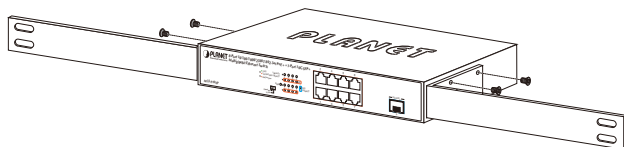

Figure 3: Attaching the brackets to the Multigigabit Ethernet Switch
- Step 2:** Attach a rack-mount bracket to each side of the Switch with supplied screws attached to the package. Figure 3 shows how to attach brackets to one side of the Multigigabit Ethernet Switch.